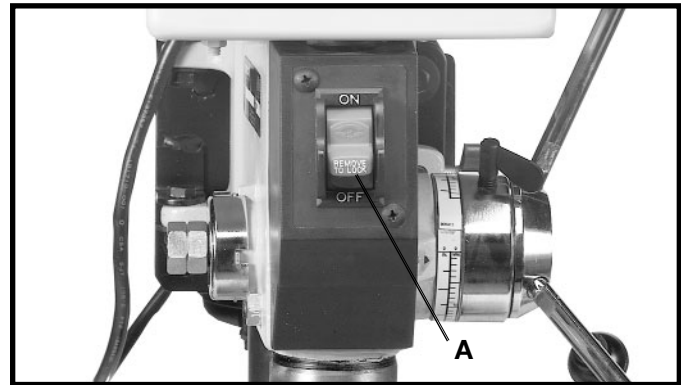

Fig. 21
The switch (A) Fig. 21, is located on the front of the drill press head. To turn the drill press "ON" move the switch to the up position. To turn the drill press "OFF" move the switch to the down position.